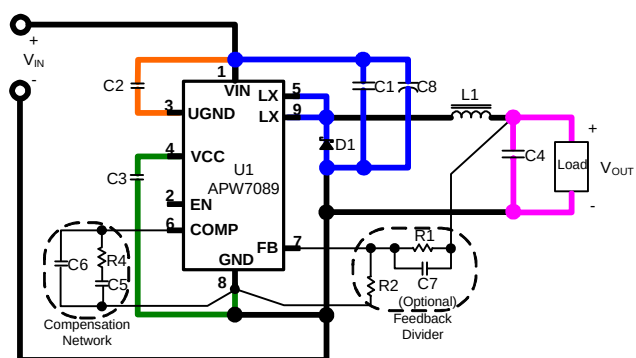

Figure 2. Current Path Diagram
In high power switching regulator, a correct layout is important to ensure proper operation of the regulator. In general, interconnecting impedance should be minimized by using short, wide printed circuit traces. Signal and power grounds are to be kept separating and finally combined using ground plane construction or single point grounding. Figure 2 illustrates the layout, with bold lines indicating high current paths. Components along the bold lines should be placed close together. Below is a check-list for your layout:
2. In Figure 2, the loops with same color bold lines conduct high slew rate current. These interconnecting impedances should be minimized by using wide and short printed circuit traces.